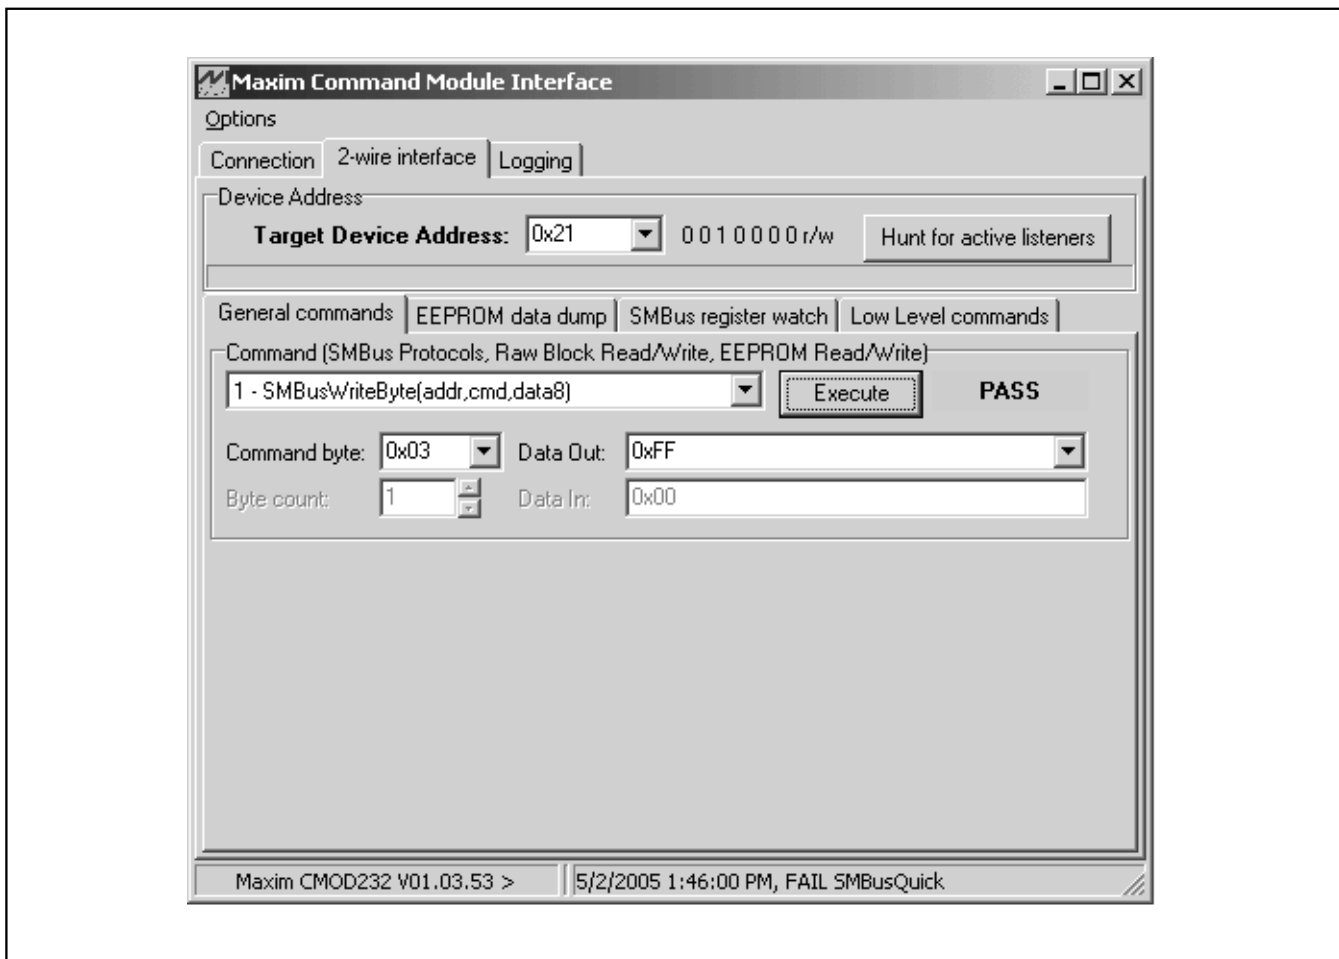

Figure 6. 2-Wire Interface Diagnostics
**Automatic Diagnostics** checkboxes before using the 2-wire interface diagnostics. The I2C dialog boxes accept numeric data in binary, decimal, or hexadecimal. Hexadecimal numbers should be prefixed by \$ or 0x. Binary numbers must be exactly eight digits. See Figure 6 for an example of this control method.